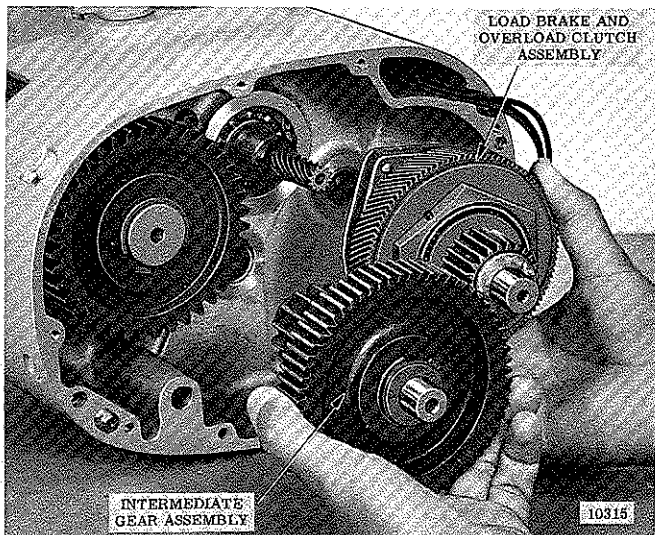

Figure 7-9. Removing Load Brake and Clutch and Intermediate Gear Subassemblies (1, 2 and 3 Ton Hoists)
(2) On 1, 2 and 3 ton hoists, pull load brake and clutch assembly and intermediate gear assembly, including the thrust washers for each unit, from hoist frame (fig. 7-9).